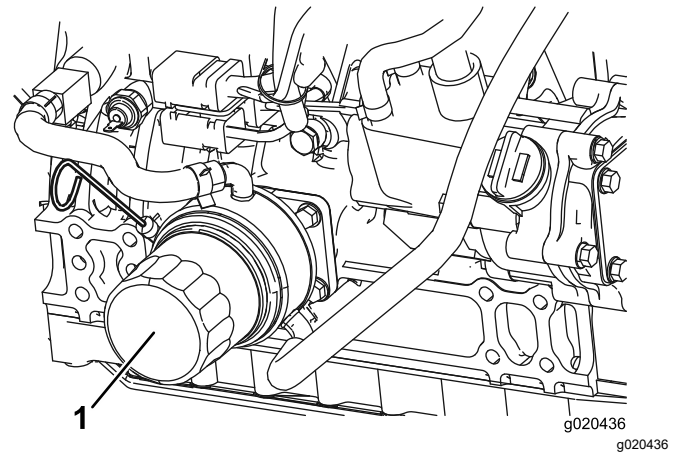

Figure 29
- Remove the old filter (Figure 29) and wipe the surface of the gasket seal on the filter head.